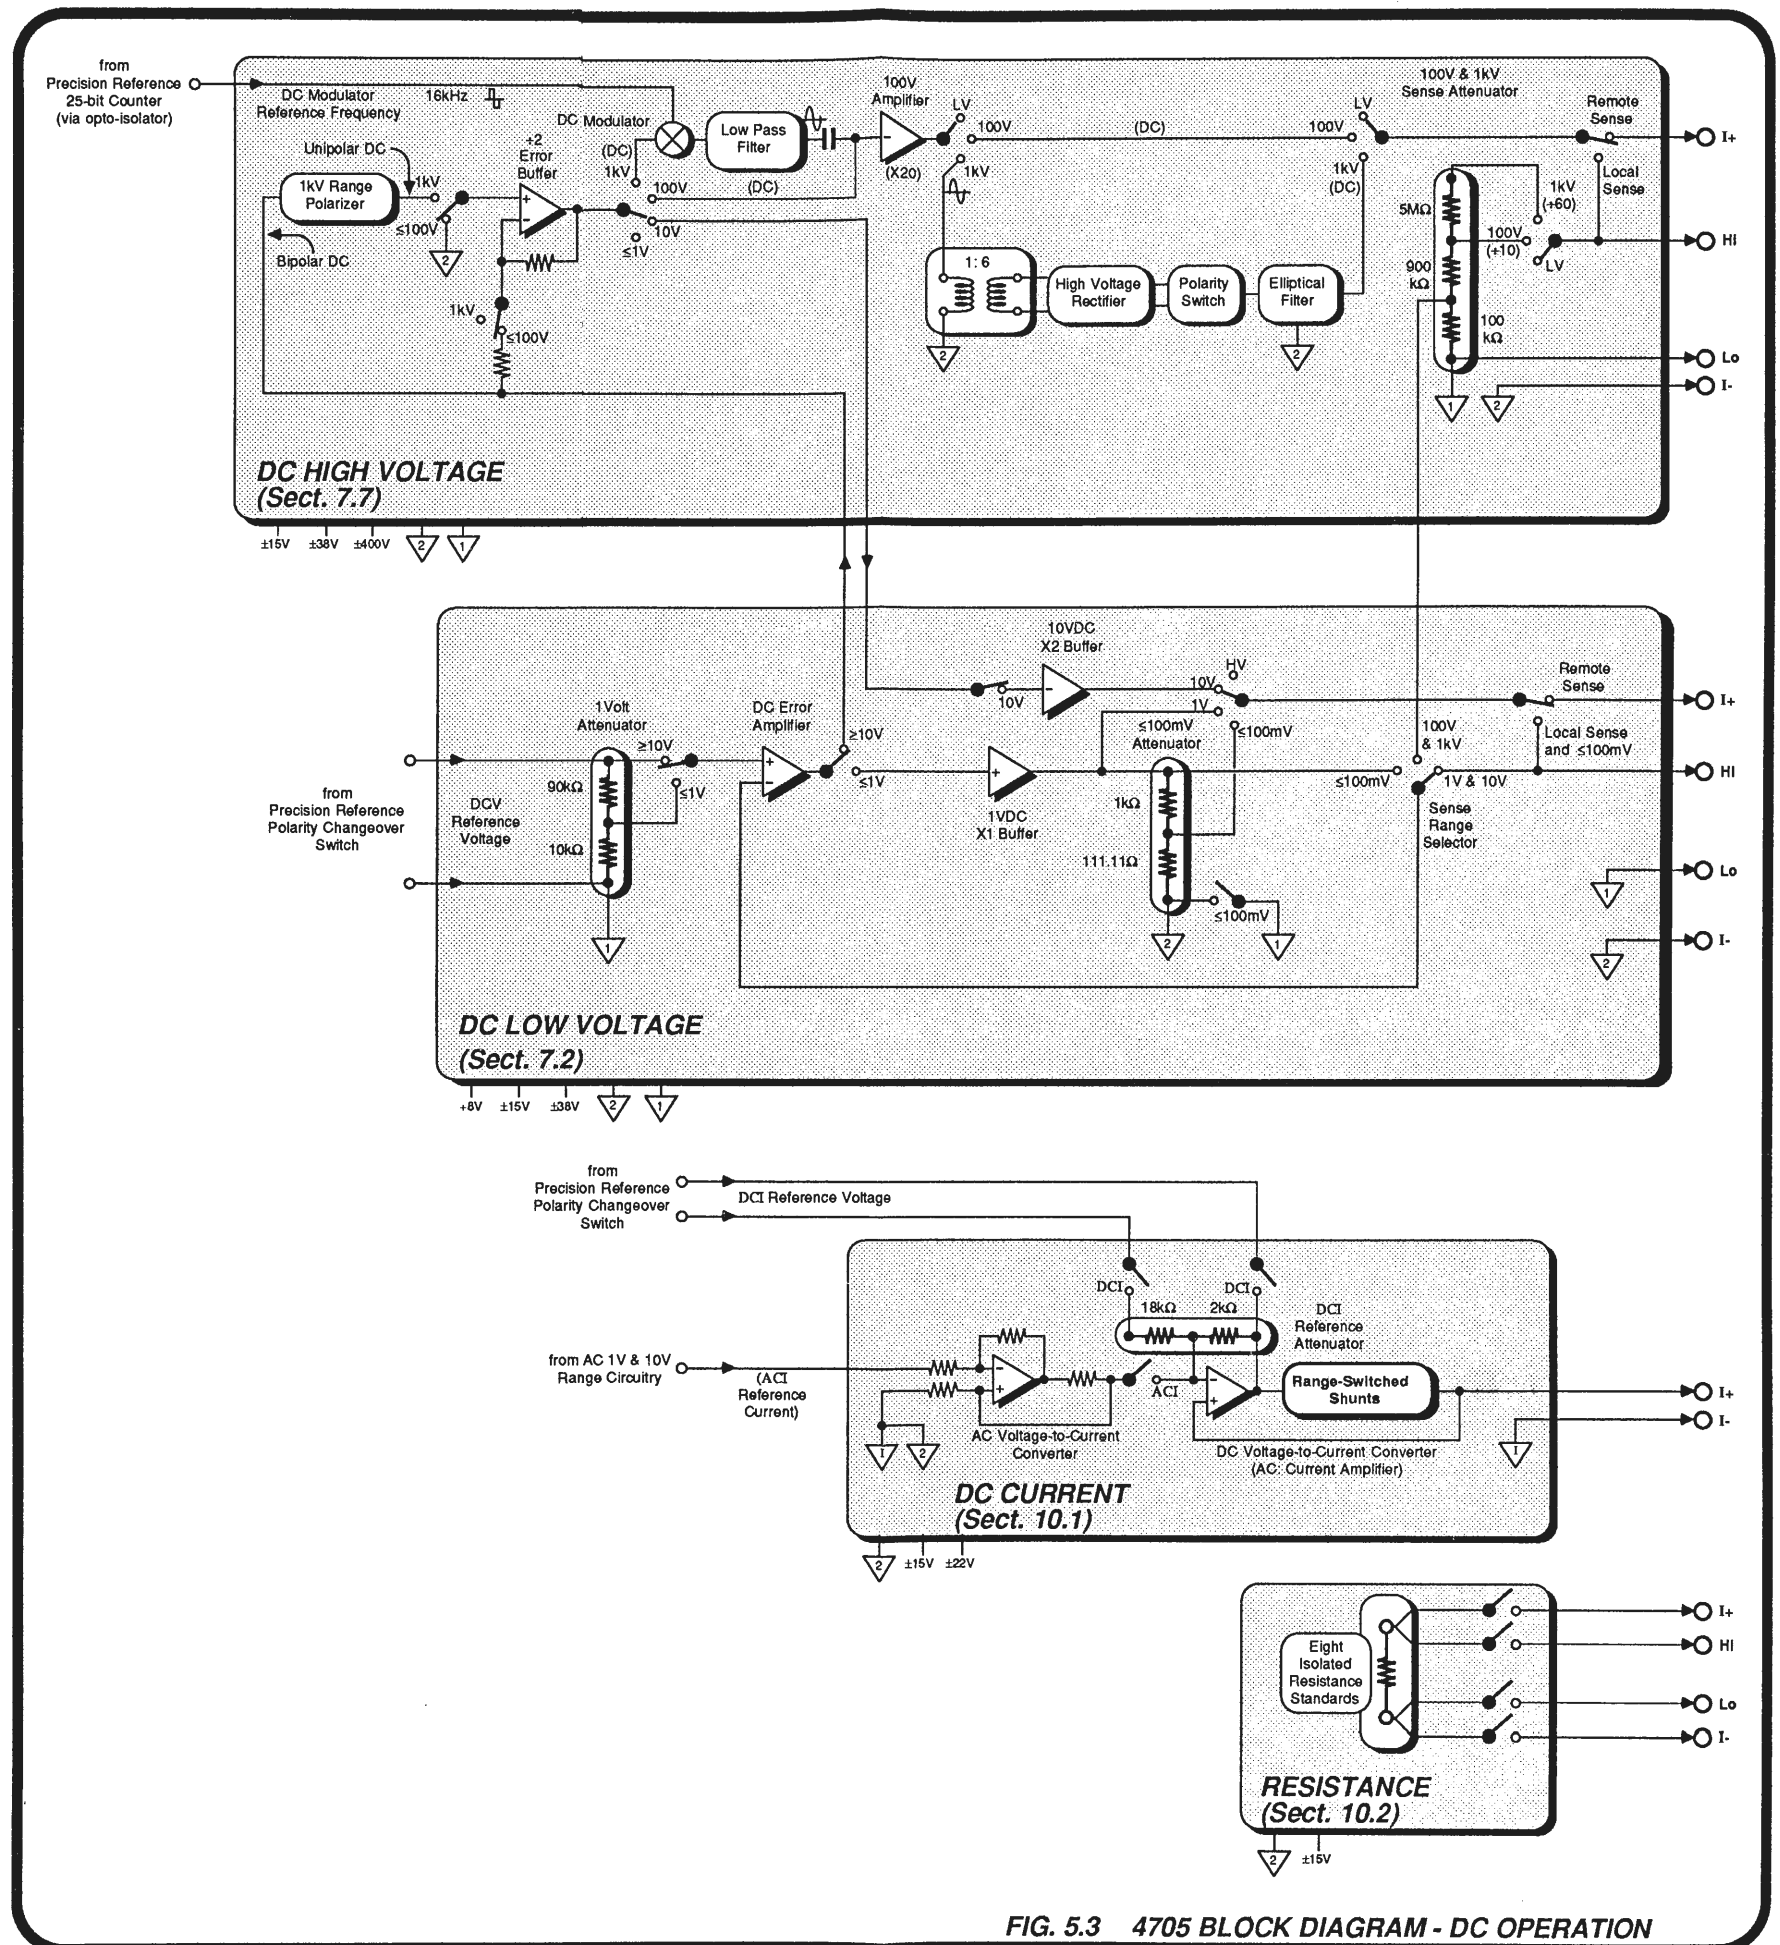

FIG. 5.3 4705 BLOCK DIAGRAM - DC OPERATION
(Fig. 5.3)
5.8.1 DC 1000V RANGE (Fig. 5.3)
5.9.1 DC CURRENT (Fig. 5.3)
5.9.3 RESISTANCE (Fig. 5.3)